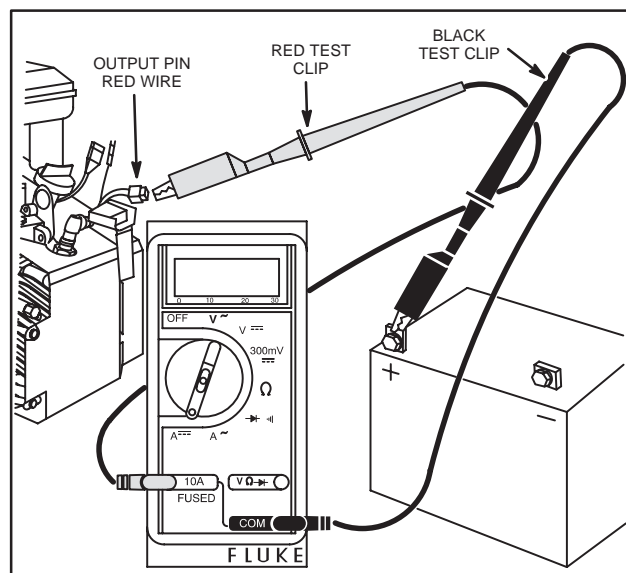

Fig. 30 – Testing Regulator Output
4. Attach RED test lead clip to charging output pin (red wire), Fig. 30.